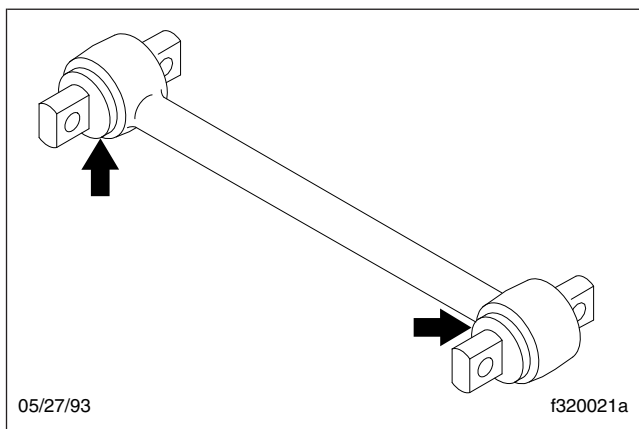

Fig. 1, Torque Arm Bushings
- Inspect the rubber bushing ends. See Fig. 1. Replace the torque arm for any of the following reasons: